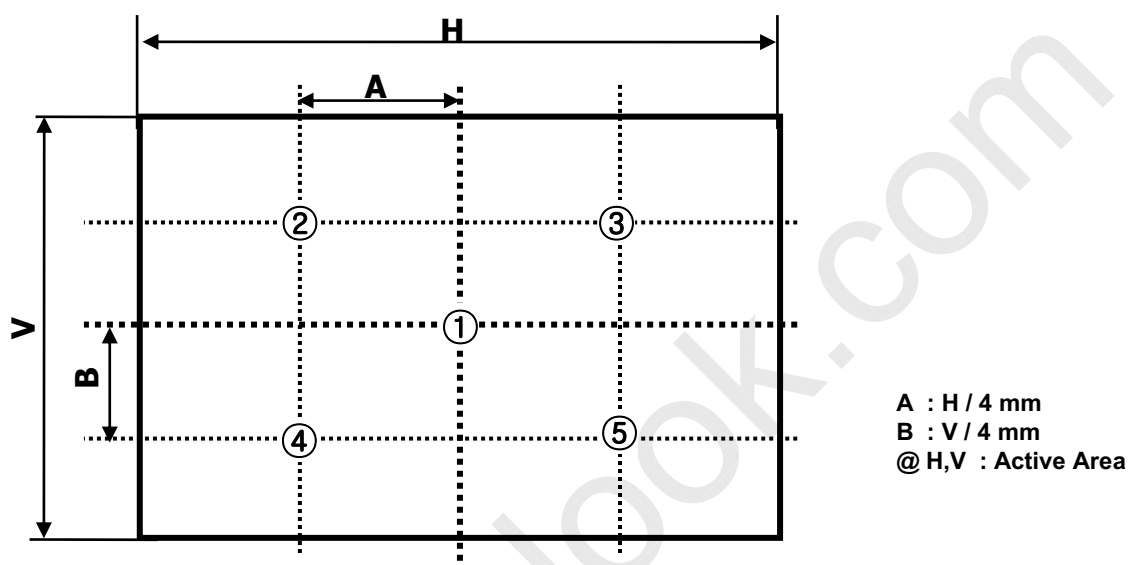

FIG. 9 5 Points for Luminance Measure
- Surface luminance is determined after the unit has been 'ON' and 1Hour after lighting the backlight in a dark environment at $25 \pm 2^\circ\text{C}$. Surface luminance is the luminance value at center 1-point across the LCD surface 50cm from the surface with all pixels displaying white. For more information see the FIG. 9.
For more information, see the FIG. 9.